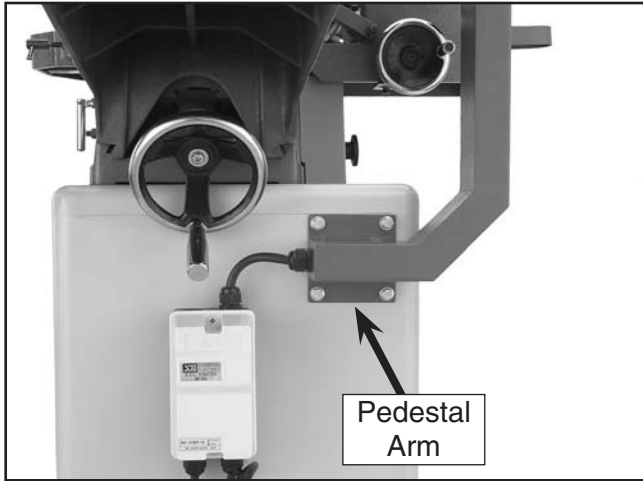

Figure 12. Correctly installed switch components.
- Secure the pedestal arm to the jointer stand with the hex bolts and flat washers, as shown in **Figure 12**.